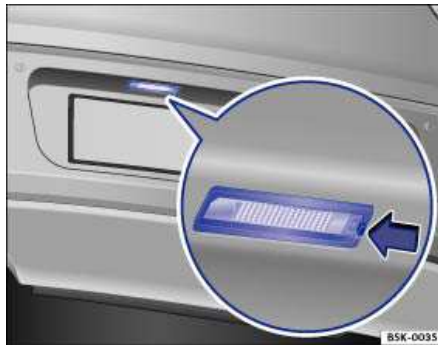

Fig. 203 In the rear bumper: License plate light.
2.	Carefully insert the flat blade of the screwdriver from the vehicle tool kit in the direction of the arrow into the slot in the license plate light ⇒ fig. 203 .